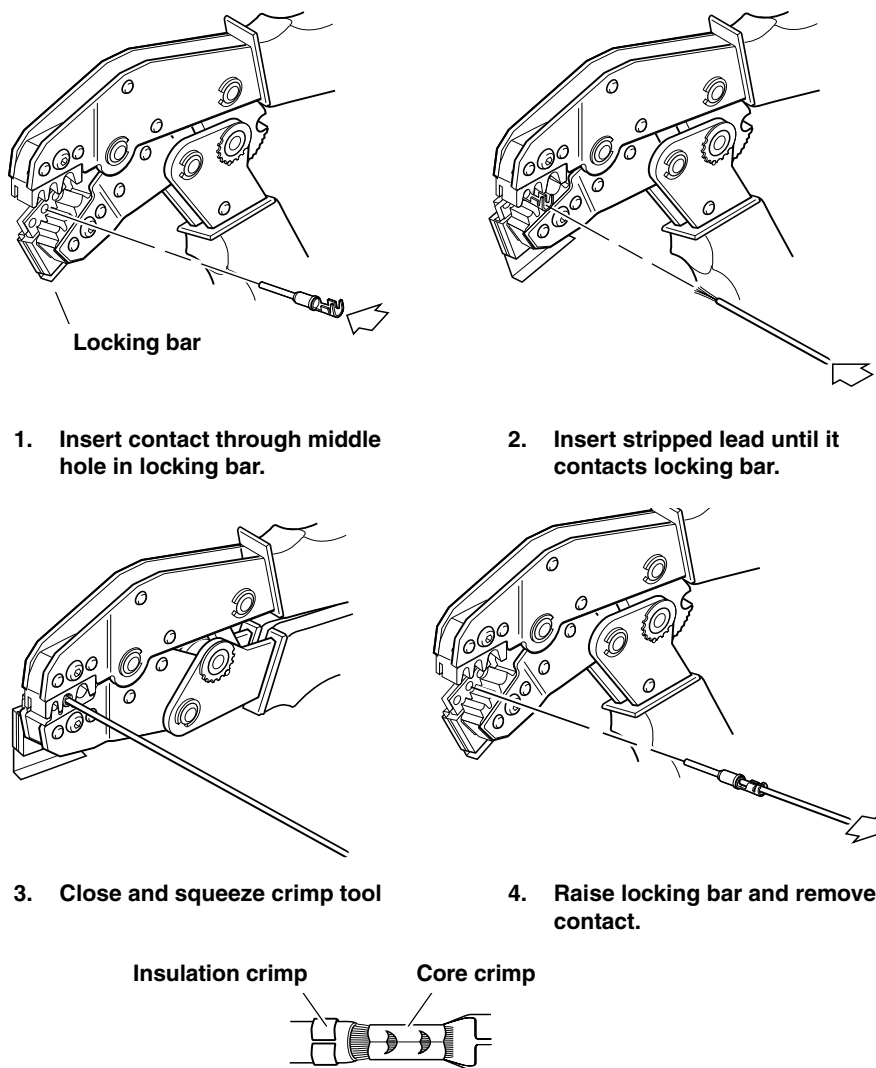

Figure B-12. Deutsch Crimping Procedure
1. See Figure B-12. Squeeze the handles to cycle the crimp tool to the fully open position.